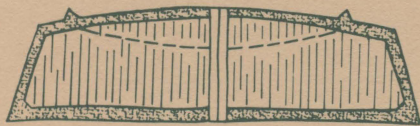

Figure 21b. Stitch centerback seam; mark roll line
- Mark the roll line onto the interfacing (Figure 21b).